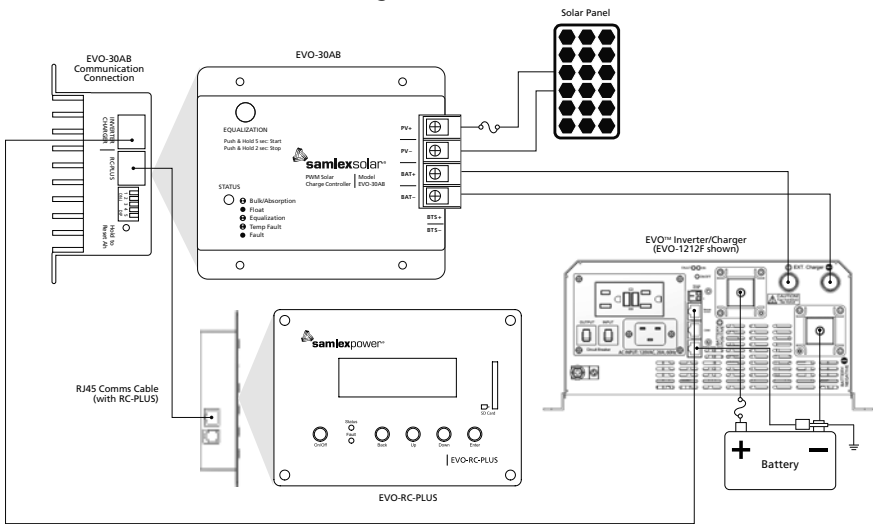

Fig 6.4 EVO-30AB with EVO-RC-PLUS and EVO™ Inverter/Charger Wiring Diagram
3. Install the EVO-30AB as described in Section 6.1 to 6.3 of this manual, but making the battery connection to the "External DC Charger connection on the EVO™ Inverter/Charger. See Fig 6.4 below.
5. Connect the communications cable between the EVO™ Inverter/Charger to the EVO-30AB as shown in the Figure 6.4 below.
6. Connect the communications cable between the Charge Controller and the EVO-RC-PLUS as shown in Figure 6.4 below.